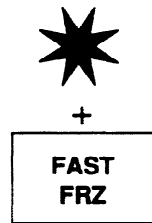

Figure 19
- a. To set FAST FREEZE mode, press START pad (*); press FAST FRZ pad. Indicator light will glow. See Figure 19.